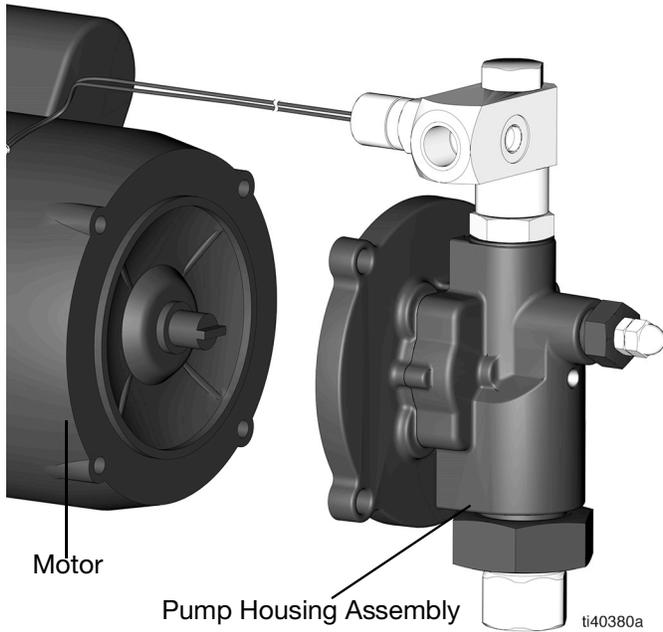

FIG. 25
14. Remove the pump housing assembly from the motor (FIG. 25).